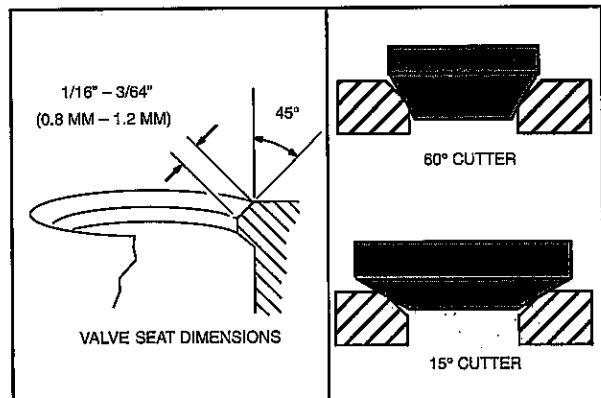
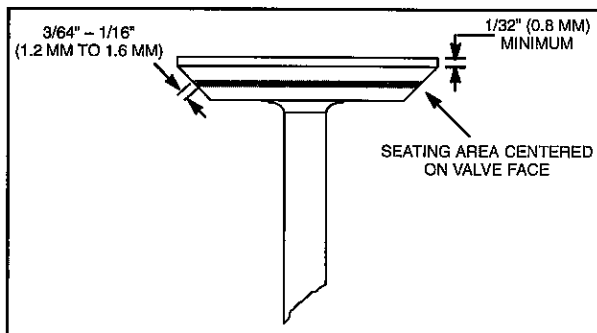

Fig. 14
Fig. 16
If valve seat is wider than $3/64"$ (1.2 mm), Fig. 14, use a narrowing cutter to ensure that contact area of valve seat is centered on face of valve, Fig. 16.
Use a 60° cutter, Fig. 14, top inset, to narrow seat from bottom. Use a 15° cutter, Fig. 14, bottom inset, to narrow seat from top.
2. Valve faces can be resurfaced to **45°**. See **Fig. 16** for dimensions for valves.